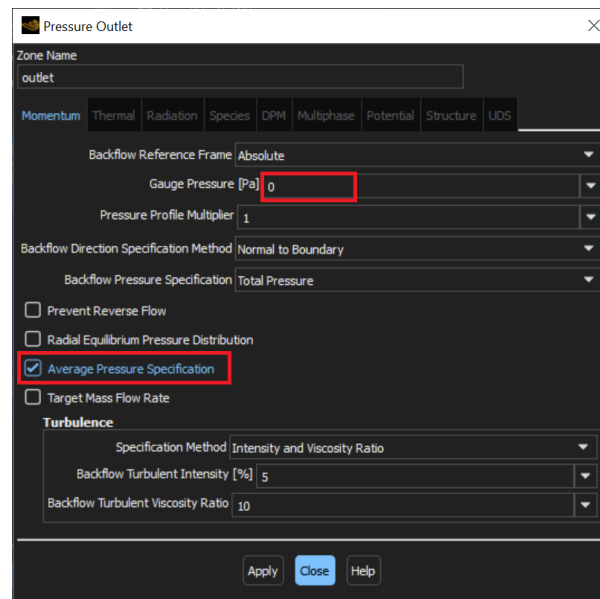

Figure 48: Outlet boundary condition as *pressure-outlet* in Fluent.
- (b) For the *outlet*, select *outlet* from the *Zone* selection list, for the *Type* select *pressure-outlet* and click *Edit*. As illustrated in figure 48, in the *Pressure Outlet* dialog box, leave the *Gauge Pressure* equal to 0 *Pascal*, check the *Average Pressure Specification* and leave all other parameters for the *Momentum* tab as the default. Click *Apply* to close the *Pressure Outlet* dialog box.